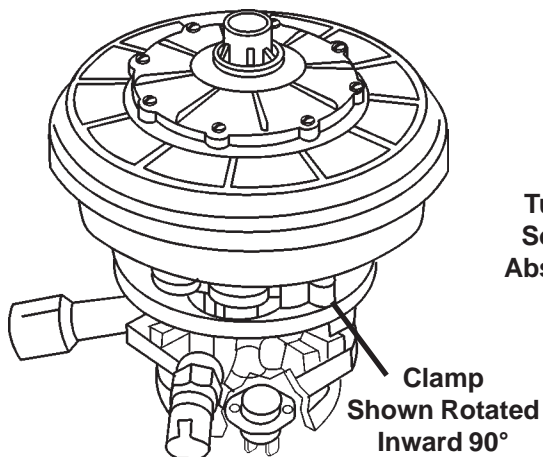

Fig. 2-7
3. Rubber clamps secure the pump and motor assembly to the tub. Rotate these inward 90°. (Fig. 2-7)